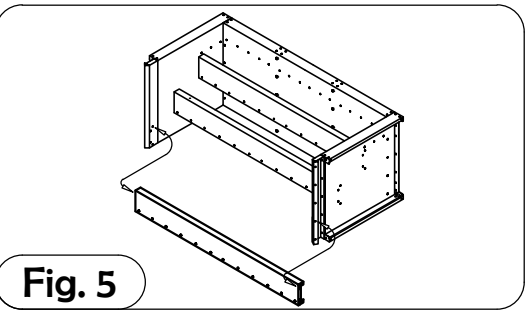

Fig. 5
5. Bolt the top step to the left and right side panels and bolt the treads and risers together (Fig. 5).
5. Bolt the bottom step forms together (through stair brace if one is needed). Bolt form ends to side stair panels (Fig. 5).